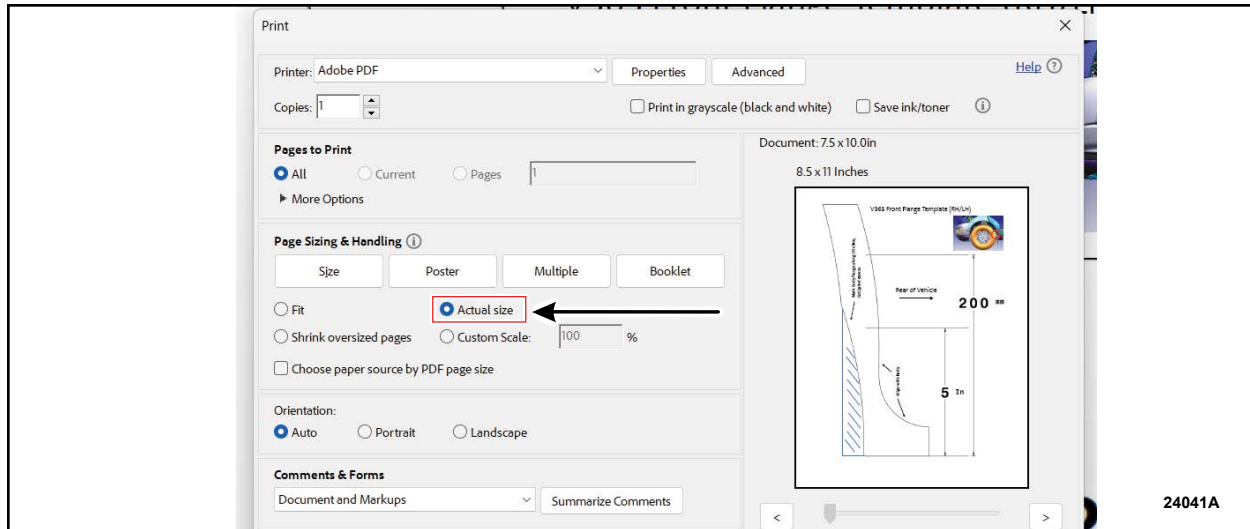

FIGURE 2
5. Print the template located at the end of Technical Instructions using actual size settings. See Figure 2.